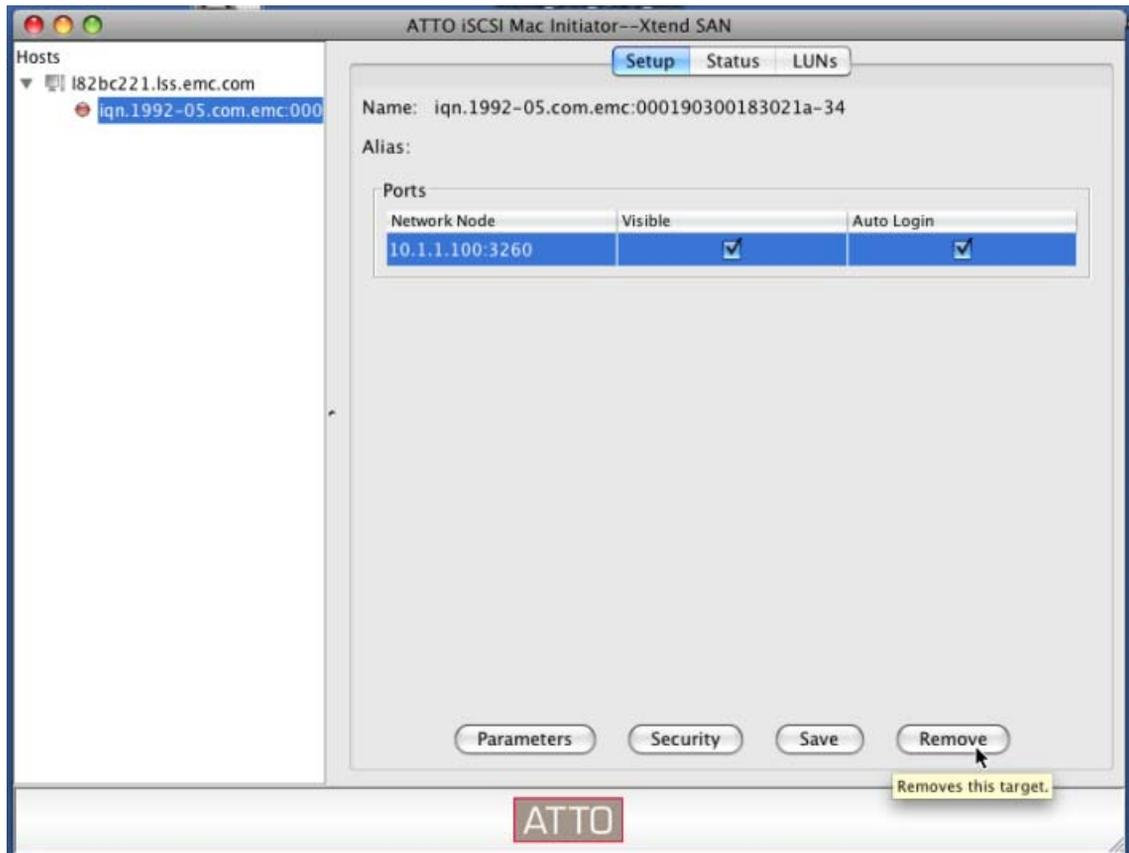

Figure 18 Setup dialog box
The **Setup** window appears, displaying the iqn of the Celerra target discovered, as shown in the left panel in Figure 18.
5. Enable **Visible** and **Auto Login** by clicking the checkbox, then click anywhere on the line to highlight the IP address, as shown in Figure 18.
The **Setup** dialog box (shown in Figure 18 on page 42) displays again.
9. Click **Save** in the **Setup** dialog box, as shown in Figure 18.